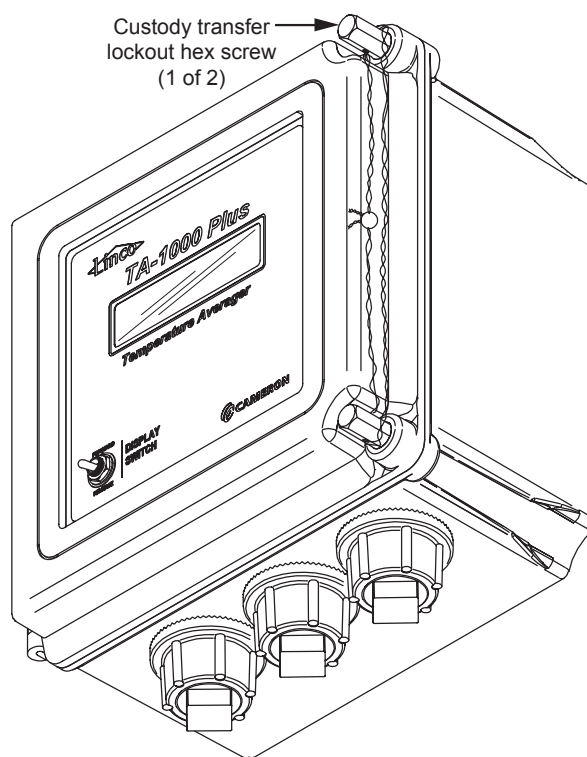

Figure D.1—Weatherproof enclosure with custody transfer lockout kit and lead seal installed
4. Insert the lockout hex screws into the holes in the top and bottom corners of the door panel and turn them clockwise to tighten (Figure D.1).
5. Thread wire through the holes in the lockout hex screws, as shown in Figure D.1.